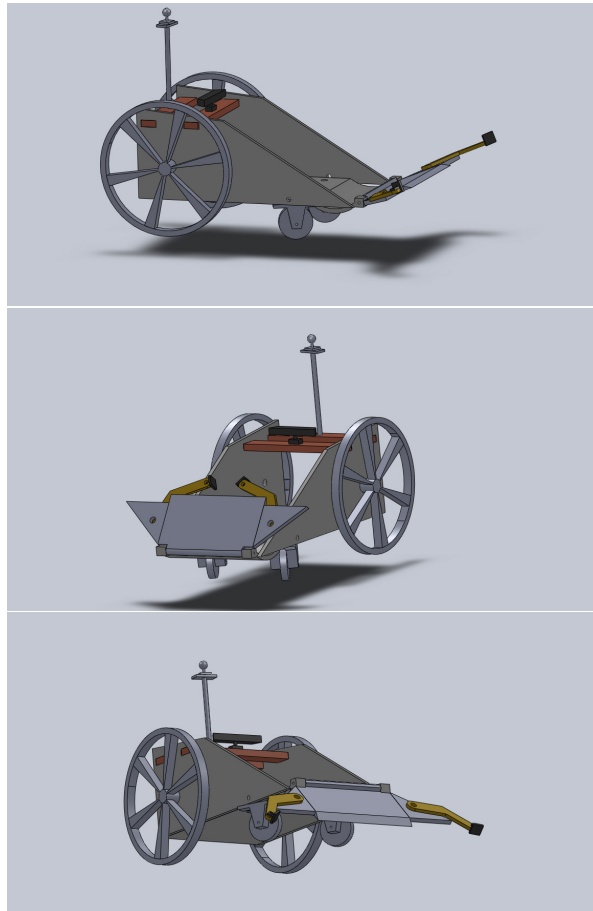

Fig. 1: A sketchup of Rockie.
- A high-definition color camera for long range perception (mounted on the pole in Figure 1)